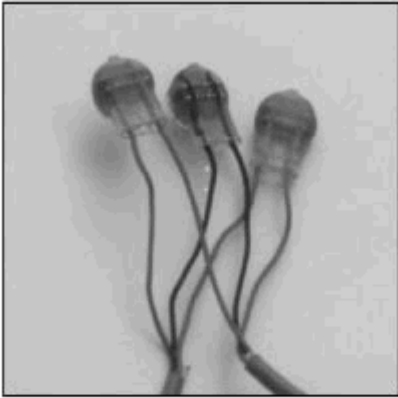

Figure 2.15 Completed Scotchlok Splices
7. Inspect the Scotchlok to verify that both wires are fully inserted. If they are not, redo the splice (Figure 2.15).